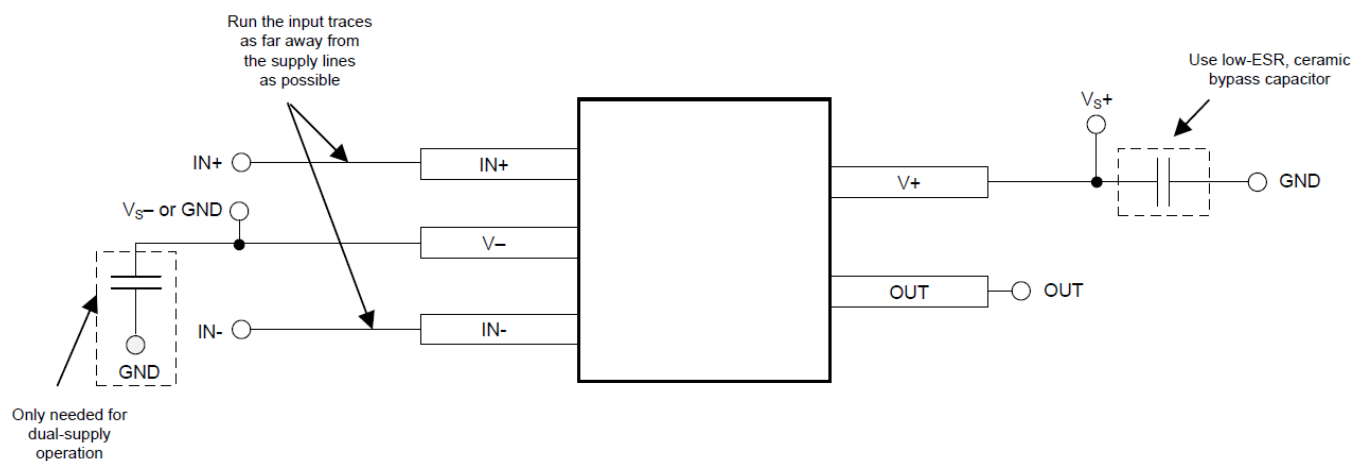

Figure 35. Typical PCB Layout
4. The output trace should be routed away from inputs. The ground plane should extend between the output and inputs to act as a guard. This can be achieved by running a topside ground plane between the output and inputs. A typical PCB layout is shown in Figure 35.